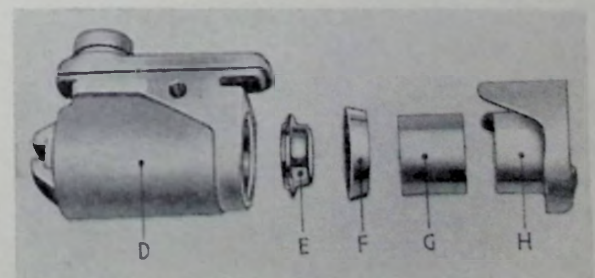

Fig. 3. Rear Cylinder Exploded.
The wheel cylinder (D), see Fig. 3, Page HY7 and Fig. 2, Page HY8, contains a single piston split in two, the inner piston (G) being hydraulically operated while the outer piston (H) is manually operated by the handbrake lever (B). The inner piston is backed by a rubber cup (F) and the space in front of the cup is partially occupied by a cup filler (E). When operated hydraulically, the inner piston butts against the outer piston, leaving the handbrake lever (B) undisturbed, and applies a thrust to the tip of the leading shoe through the dust cover, "Micram" adjuster and mask. When operated manually, an inwards movement of the handbrake lever brings the heel of the lever into contact with the outer piston (H) thrusting it outwards against the leading shoe without disturbing the inner piston. A rubber boot (A) is fitted to exclude foreign matter.